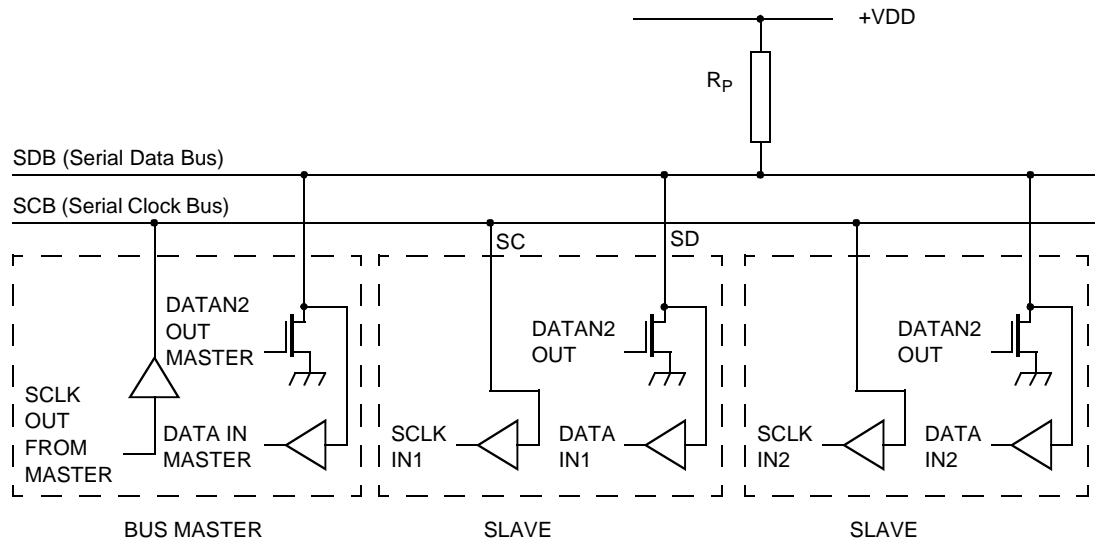

Figure 19: Connection of Devices to the Bus
The CH7003 contains a standard I²C control port, through which the control registers can be written and read. This port is comprised of a two-wire serial interface, pins SD (bi-directional) and SC, which can be connected directly to the SDB and SCB buses as shown in **Figure 19**.
The Serial Clock line (SC) is input only and is driven by the output buffer of the master device (also shown in **Figure 19**). The CH7003 acts as a slave, and generation of clock signals on the bus is always the responsibility of the master device. When the bus is free, both lines are HIGH. The output stages of devices connected to the bus must have an open-drain or open-collector to perform the wired-AND function. Data on the bus can be transferred up to 400 kbit/s.
The electrical specifications of the bus devices’ inputs and outputs and the characteristics of the bus lines connected to them are shown in **Figure 19**. A pull-up resistor (R_p) must be connected to a $5V \pm 10\%$ supply. The CH7003 is a device with input levels related to V_{DD} .